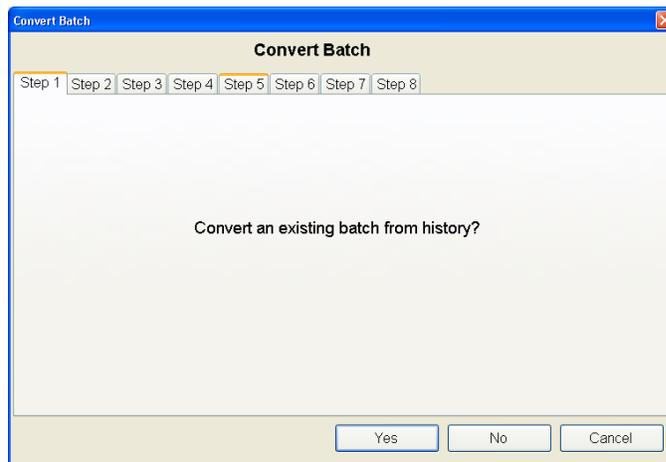

Figure 12-5: "Convert Batch from History?" Confirmation Screen
4. A dialogue box will help guide the user through the convert feature – see Figure 12-5. The first option is to convert a batch from history. However, in this example we are not converting a recipe from history. Instead we are going to convert our master recipe. Click on **No**.